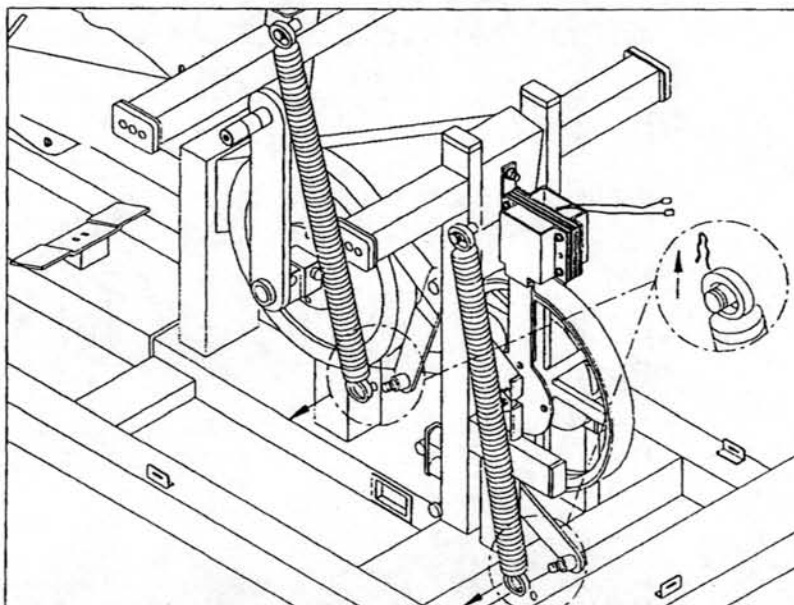

Fig.5-2
3. Pull out two pins from the IDLER WHEEL to loosen the Springs (see fig 5-2)